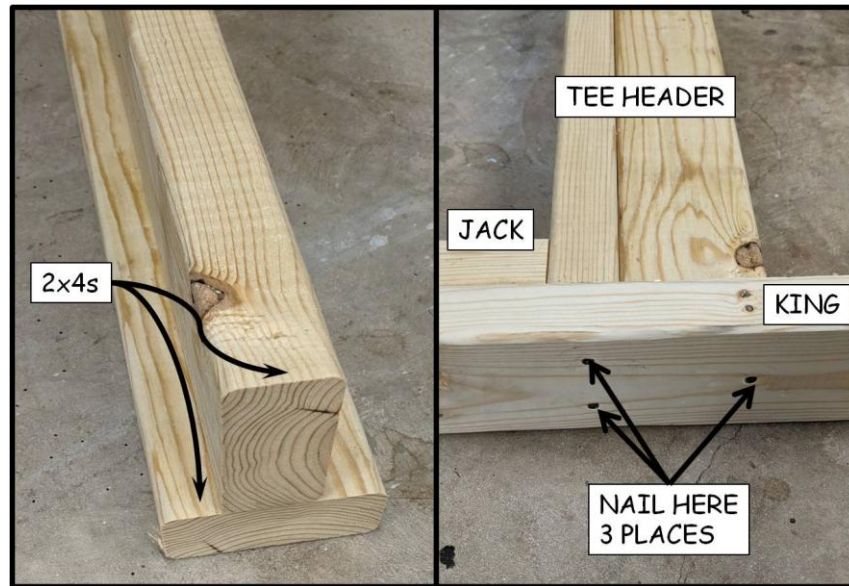

Figure 4-3. T-Header Assembly.
2. From the 2x4 pieces precut in Section 4.1.5, select matching-length header pieces for each interior door. Nail together with 3" collated nails to create a "T" header (see Figure 4-3).
5. For non-flush sliding doors, identify the appropriate header and place it so the horizontal portion of the "T" header is on top of the Jack studs, tight against the King studs. Nail through the King studs into both ends of the header pieces with 3" collated nails - two nails in the horizontal piece and one nail in the vertical piece of the header (see Figure 4-3).
3. Identify the appropriate header and place it so the horizontal portion of the “T” header is on top of the Jack studs, tight against the King studs. Nail through the King studs into both ends of the header pieces with 3” collated nails - two nails in the horizontal piece and one nail in the vertical piece of the header (see Figure 4-3).